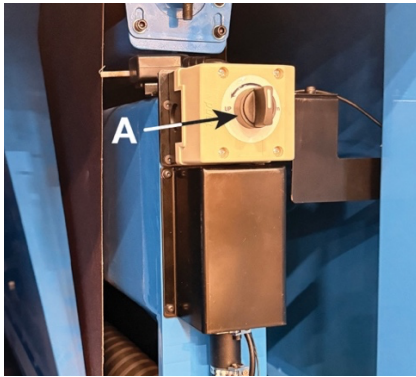

Figure 9-18
3. Locate the belt tension control switch (A, Figure 9-18) near the sanding direction label. Turn the belt tension control switch to the "DOWN" position to release the tension roller. NOTE: Hold switch in the "DOWN" position until the tensioning cylinder reaches full travel and automatically stops.